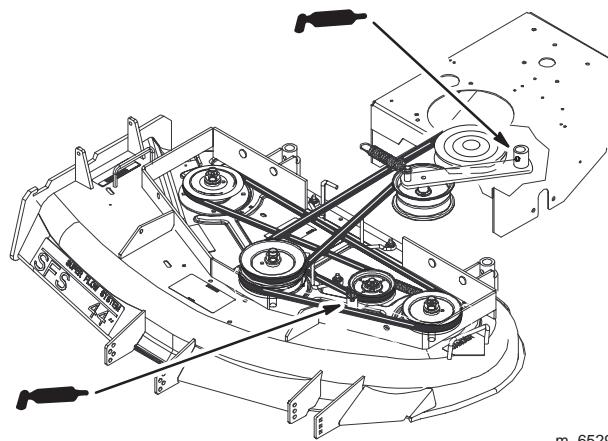

Figure 34
2. Grease the idler pulley pivots (Fig. 34).